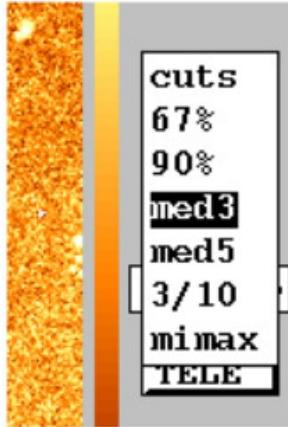

Figure 23: Cuts dropdown Menu
- **Cuts** Display stretch control, Figure 23. This button brings up a menu with various options for determining the minimum and maximum display levels. The options include: